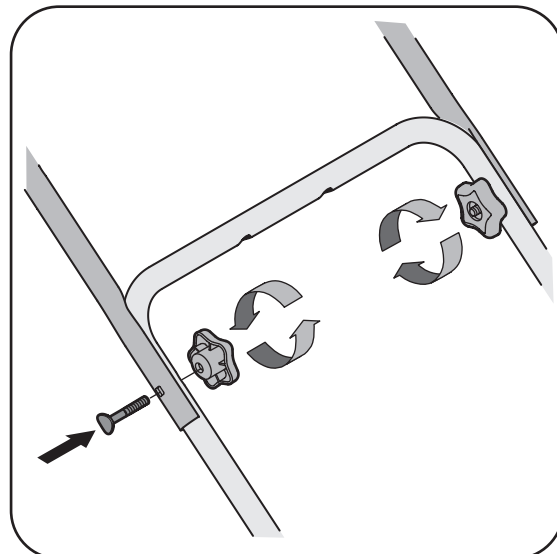

Figure 3-4: Attach the upper handle to the lower handle.
2. Secure the upper handle to the lower handle using the carriage bolts and star knobs, Figure 3-4. Make sure that the carriage bolt heads go on the outside of the handle.